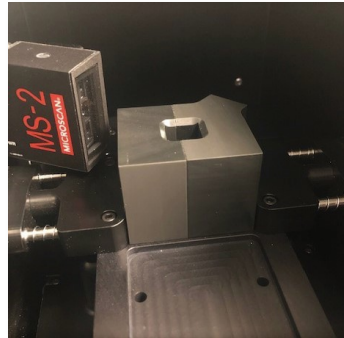

FIGURE 2: P4334 WINdose Dosimeter holder receiver installed in baseplate
8.2.2 Insert the GEX Part# P4334 WINdose dosimeter holder receiver into the baseplate and ensure that it is fully and correctly seated. See Figure 2 below.